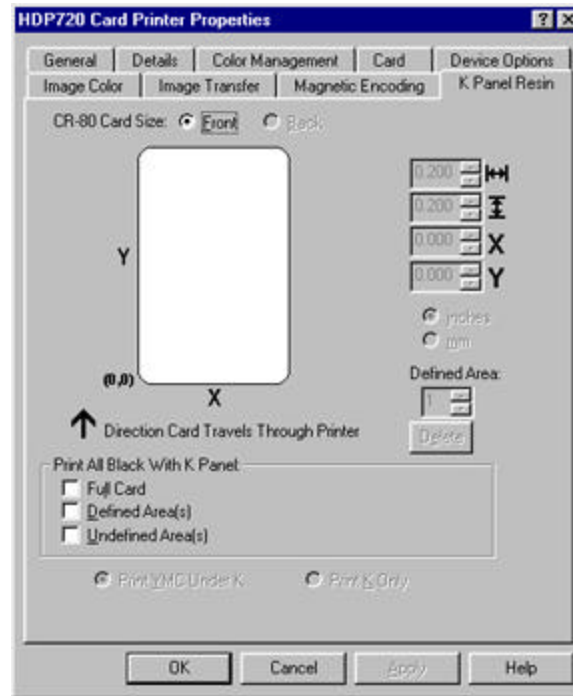

Figure 3-7
If printing black text or barcodes that are not TrueType fonts or black graphics, select one of the three options listed under "**Print All Black With K Panel.**" See Figure 3-7. The printer driver will print areas of the image where it finds black coloring with the print ribbon's resin black (K) panel as specified by each of the following options: